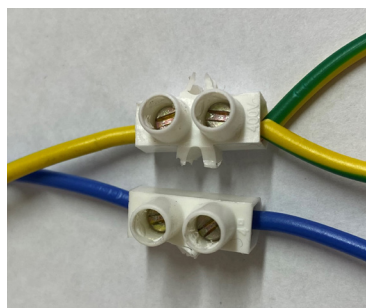

fig.4
- 6** **Earth wiring:** Connect inside switch case Earth wire Power (green/yellow) to Earth wire Motor (green/yellow) and Earth wire Case (green/yellow) (fig.4).
- 7** **Neautral Wiring (No safety brake)** - connect inside switch case neutral wire power (blue) to neutral wire motor (blue) (fig.4).
- 6** Earth wiring: Connect inside switch case Earth wire Power (green/yellow) to Earth wire Motor (green/yellow) and Earth wire Case (green/yellow) (**fig.4**).
- 7** Neutral Wiring (No safety brake) - connect inside switch case neutral wire power (blue) to neutral wire motor (blue) (**fig.4**).